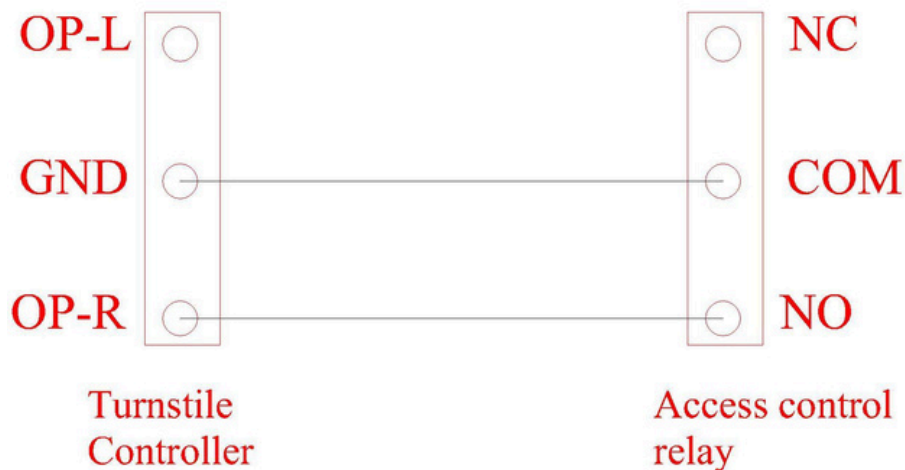

Figure 7. Wiring Connections Between Devices
- Connect directly in a one-to-one correspondence at both ends (refer to Figure 7 or Appendix B).